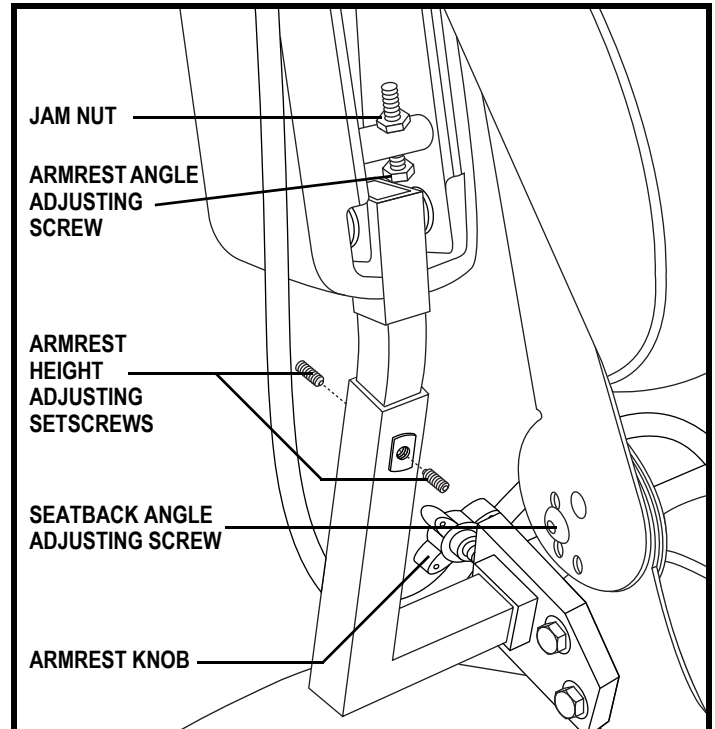

Figure 15. Seatback/Armrest Adjustment
1. Remove the adjusting screws from each seat hinge. **See figure 15.**
1. Locate the two armrest knobs on each side of the armrest receiver bracket. **See figure 15.**
1. Lift the armrest straight up so that it is perpendicular to the floor. **See figure 15.**
1. Loosen the two setscrews located on the armrest receiver. **See figure 15.**